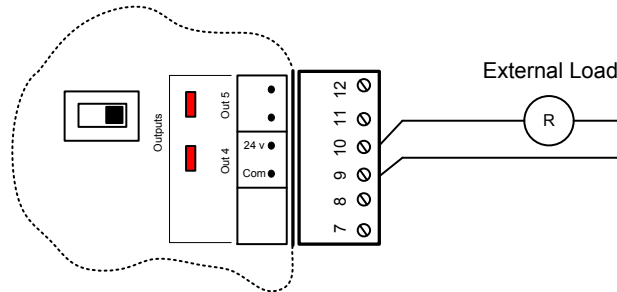

Figure 6: Connection of active outputs 3 and 4
- 1) Active output (SOURCE). The C1000 is actively powering the load. (see Figure 6)